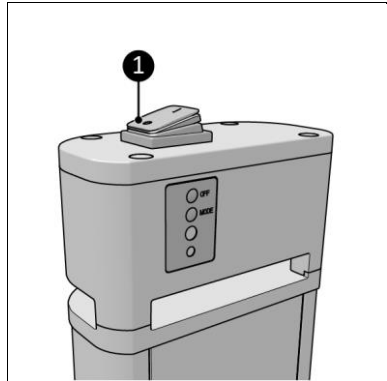

Figure 8
4. Make sure the ON/OFF switch is in the OFF position (Figure 8, pos. 1).
1. Make sure the ON/OFF switch is in the OFF position (Figure 8, pos. 1).